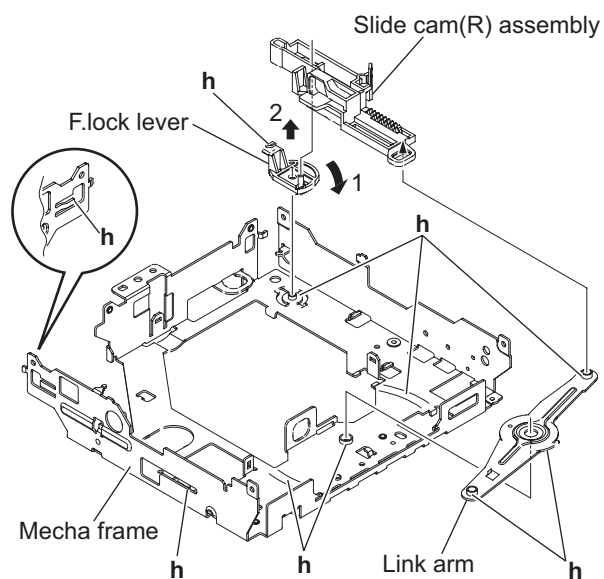

Fig.14
3.2.7 Removing the F.lock lever and slide cam (R) (See Fig.14 and 15)
- From the top side of the mecha frame, take out the slide cam (R) assembly in an upward direction. (See Fig.14.)
- Rotate the F.lock lever in the direction of the arrow 1, and then take out the direction of the arrow 2. (See Fig.14.)
When attaching the slide cam (R) assembly, the f.lock lever and the link arm apply grease to the section **h**. (See Fig.14 and 15.)